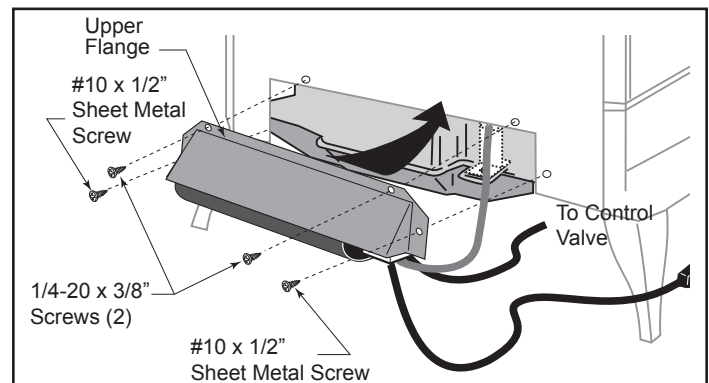

Figure 13 - Use screws removed earlier to attach fan kit to firebox.
4. Attach the fan to the firebox by reusing the two (2) pan head 1/4-20 screws on the top edge and the two (2) #10 x 1/2" sheet metal screws on the side edges, Figure 13.